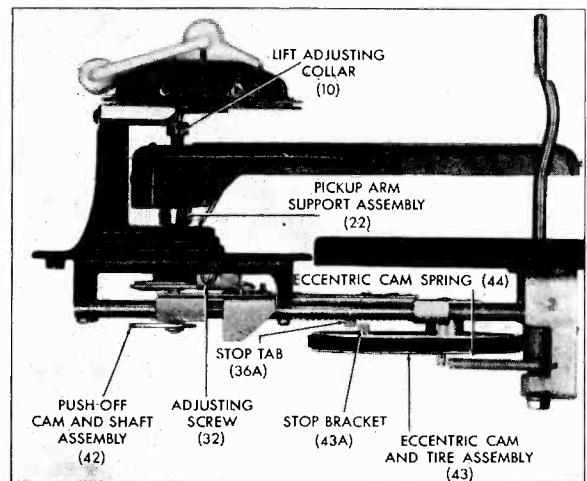

FIGURE 3.
The RC161 Record Changer is similar in appearance to other model changers. To be certain which model changer you are servicing, look for the changer model number which appears on the small label attached to the underside of the changer mechanism. The changer can be further identified by comparing Figures 3 and 5 with the actual changer.
This changer is designed so that the 10-inch set-down point, the 12-inch set-down point, and the pickup or trip point are simultaneously adjusted in a single operation. It is recommended that you make the adjustment at either of the set-down points. This adjustment is made by means of the adjusting screw (32) shown in figure 3. Turning this screw counter-clockwise will cause the arm to set down closer to the centerpost; turning it clockwise will cause the arm to set down further away from the centerpost. One complete turn on the screw will move the arm about $\frac{1}{4}$ inch.